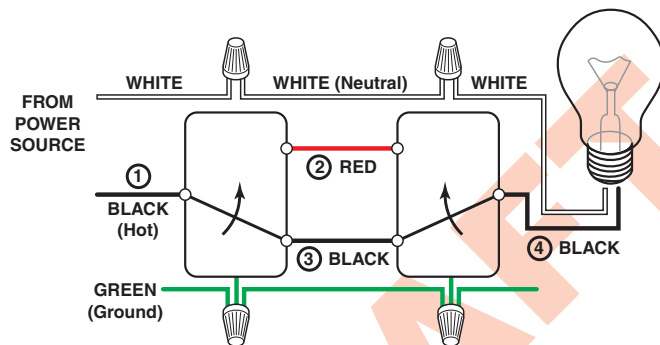

Figure 1 (Typical 3-Way Wiring Shown)
3. Remove the existing wall plate and switch. Label the wires on the existing switch according to the diagram in Figure 1. *Note:* Typical 3-way wiring is shown. Actual wiring may vary.